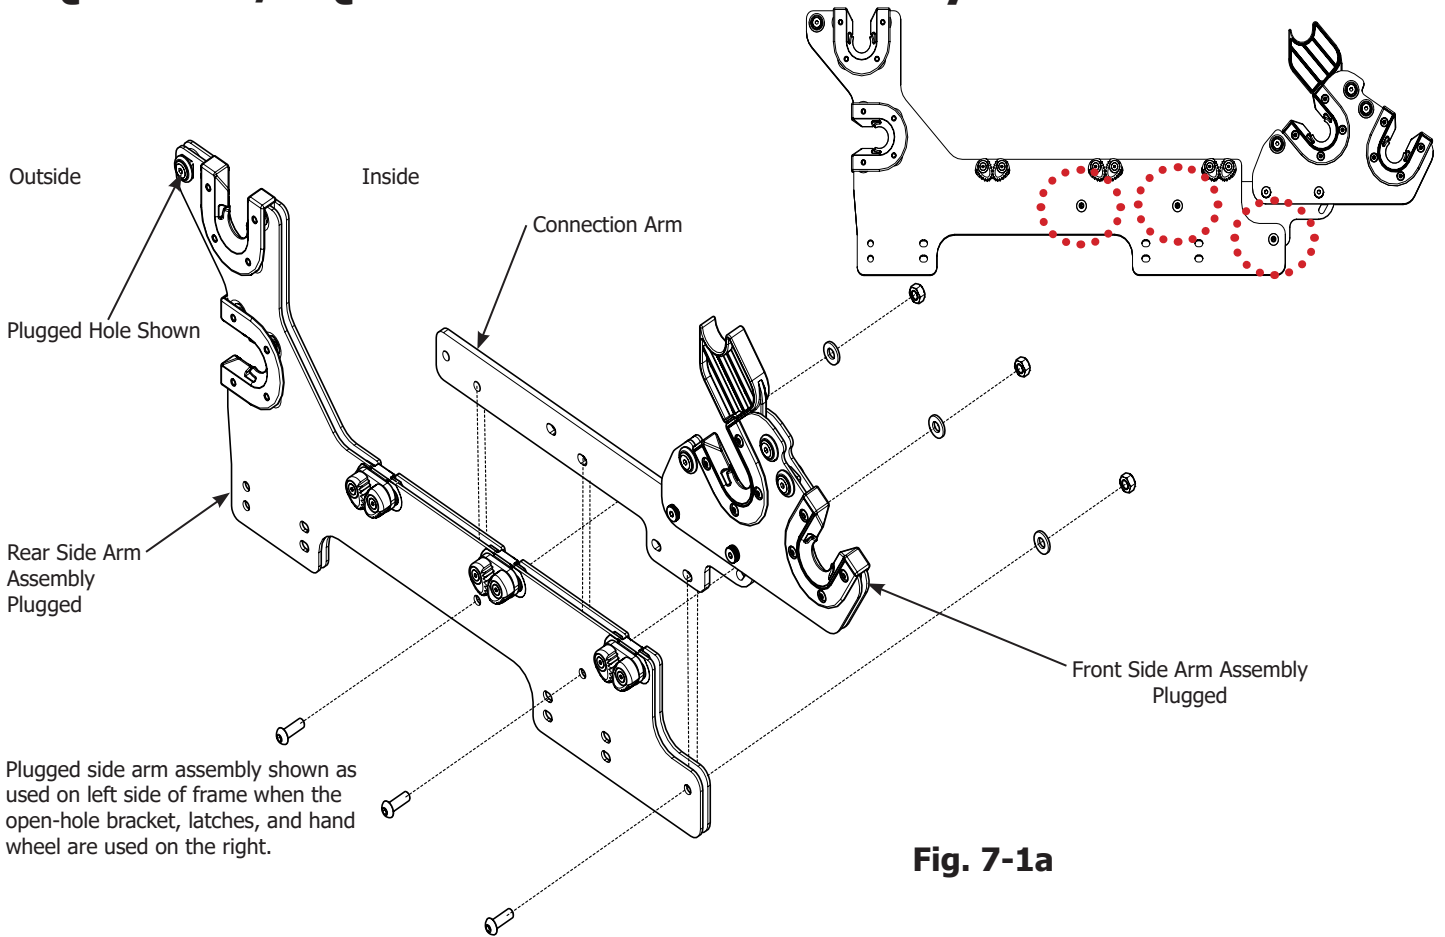

Fig. 7-1a
7-3: Assemble the side arm assembly plugged front, the connector arm, and the side arm assembly rear using three (3) M8 x 25mm SBHCS with three (3) M8 washers and three (3) M8 lock nuts as shown in Fig. 7-1a and Fig. 7-1b.
Fig. 7-1a shows assembly for the HQ Fusion®/HQ Forte™ 24-inch machine.